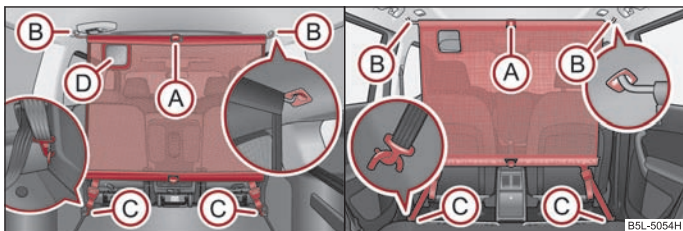

Fig. 75 Use of the static separation net behind the rear seats/behind the front seats
- Insert the cross rod into the mount (B) ⇒ fig. 75 first on the one side and push the cross rod forward. In the same way, fix the cross rod to the other side of the vehicle, mount (B).
- Hang the carabines (C) at the ends of the strap into the fixing eyes behind the rear or front seats.
- Slacken the bands on both sides and take off the carabines (C) ⇒ fig. 75.
- Take the cross rod out of the mounts (B).
The opening (D) ⇒ fig. 75 in the separation net is designed to feed through the three-point seat belt ⇒ page 140. ■